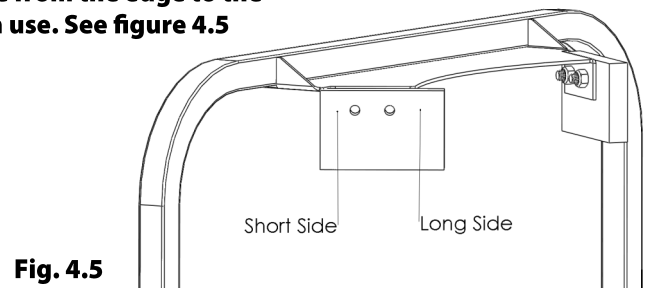

Fig. 4.5
Note: Rim Rests (21) have a short side and a long side. (The distance from the edge to the center of the hole.) The long side must face toward the rim when in use. See figure 4.5